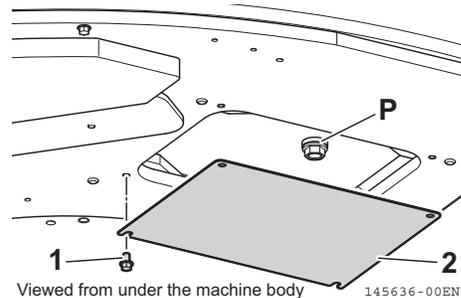

Fig. 8-68
1. Swing the upperstructure so that the drain plug (Fig. 8-68, P) at the bottom of the hydraulic tank will be positioned in the middle of the right and left crawlers.
4. Remove the 4 bolts (Fig. 8-68, 1) on the lower side of the upperstructure, and then the cover (Fig. 8-68, 2).
5. Put the container for waste oil under the drain plug (Fig. 8-68, P).
6. Remove the drain plug (Fig. 8-68, P) and drain the waste oil. When removing the drain plug (Fig. 8-68, P), take care that the oil does not splash your body.